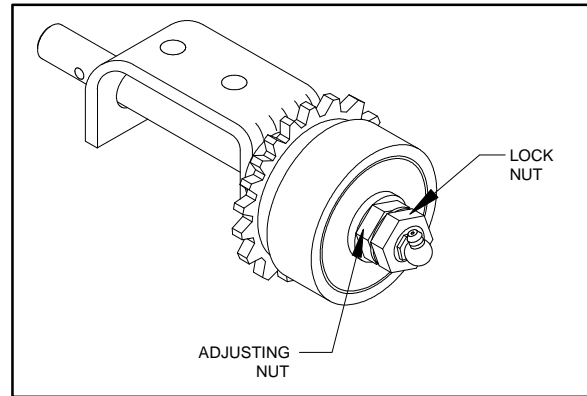

FIGURE 4-11: TORQUE-LIMITING CLUTCH ADJUSTMENT
- d. Refer to **Figure 4-11**. Adjust the torque-limiting clutch, if required.